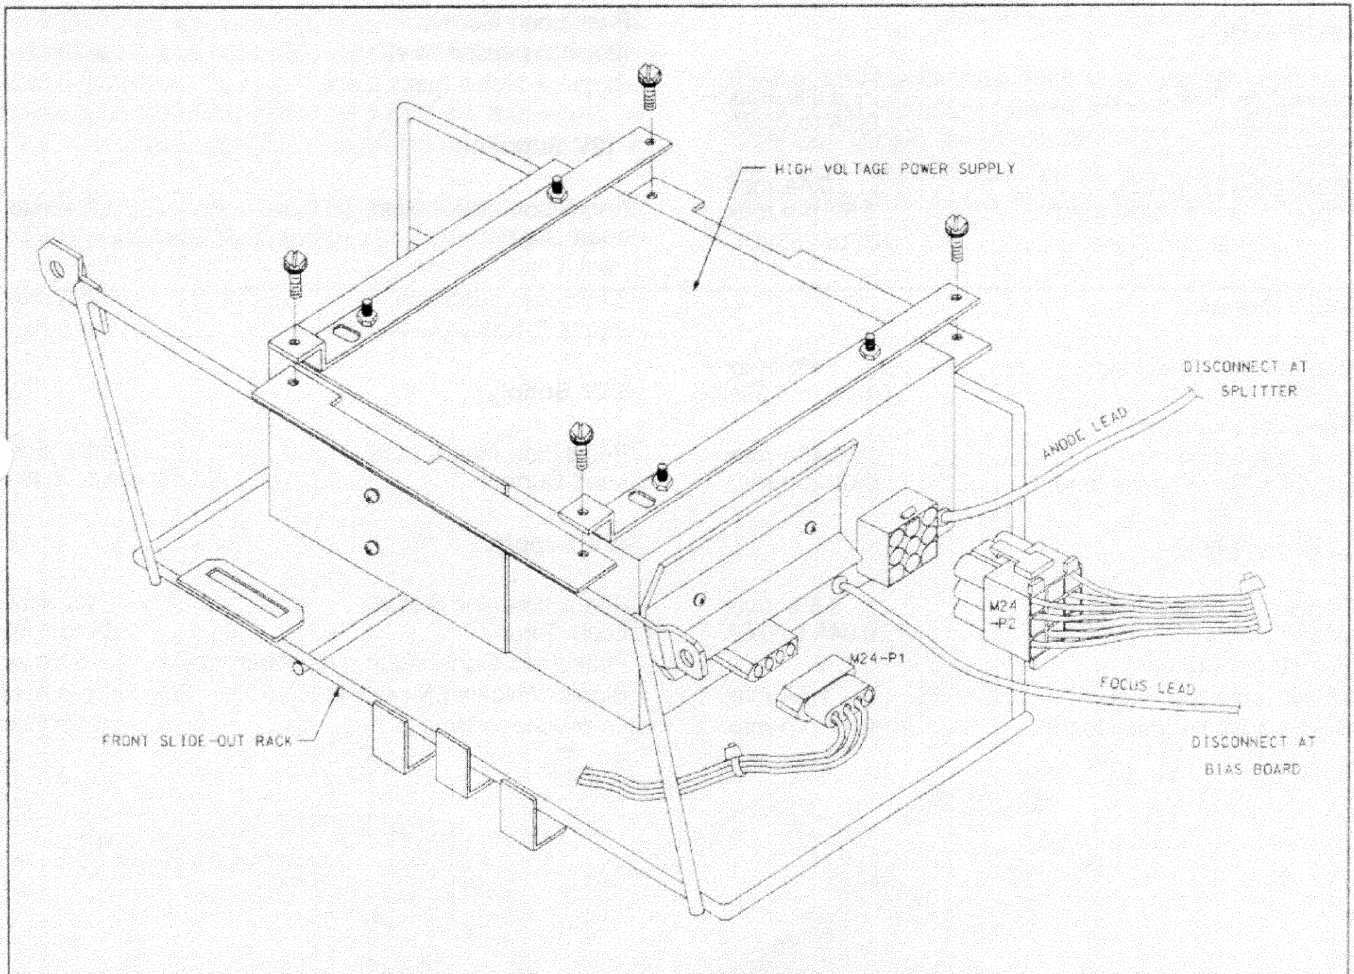

FIGURE 9-2. High Voltage Power Supply Removal
- f) Remove the 4 hex head screws as shown in Figure 9-2. Guide the High Voltage Power Supply out the right side of the front slide-out rack.